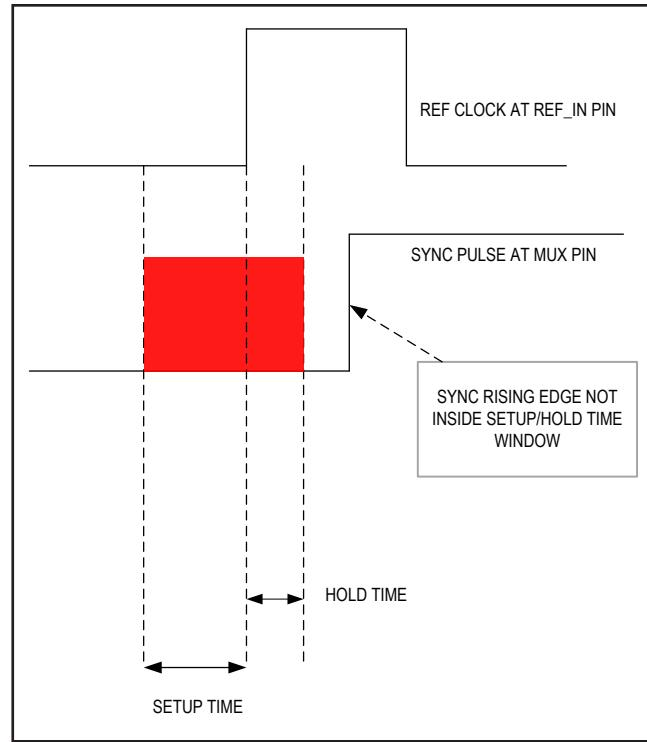

Figure 7. Setup Time/ Hold Time Window
- At each MAX2871 REF_IN pin and MUX pin, the sync rising edge can **NOT** occur inside the setup hold time window around reference signal rising edge. Refer to Figure 7.